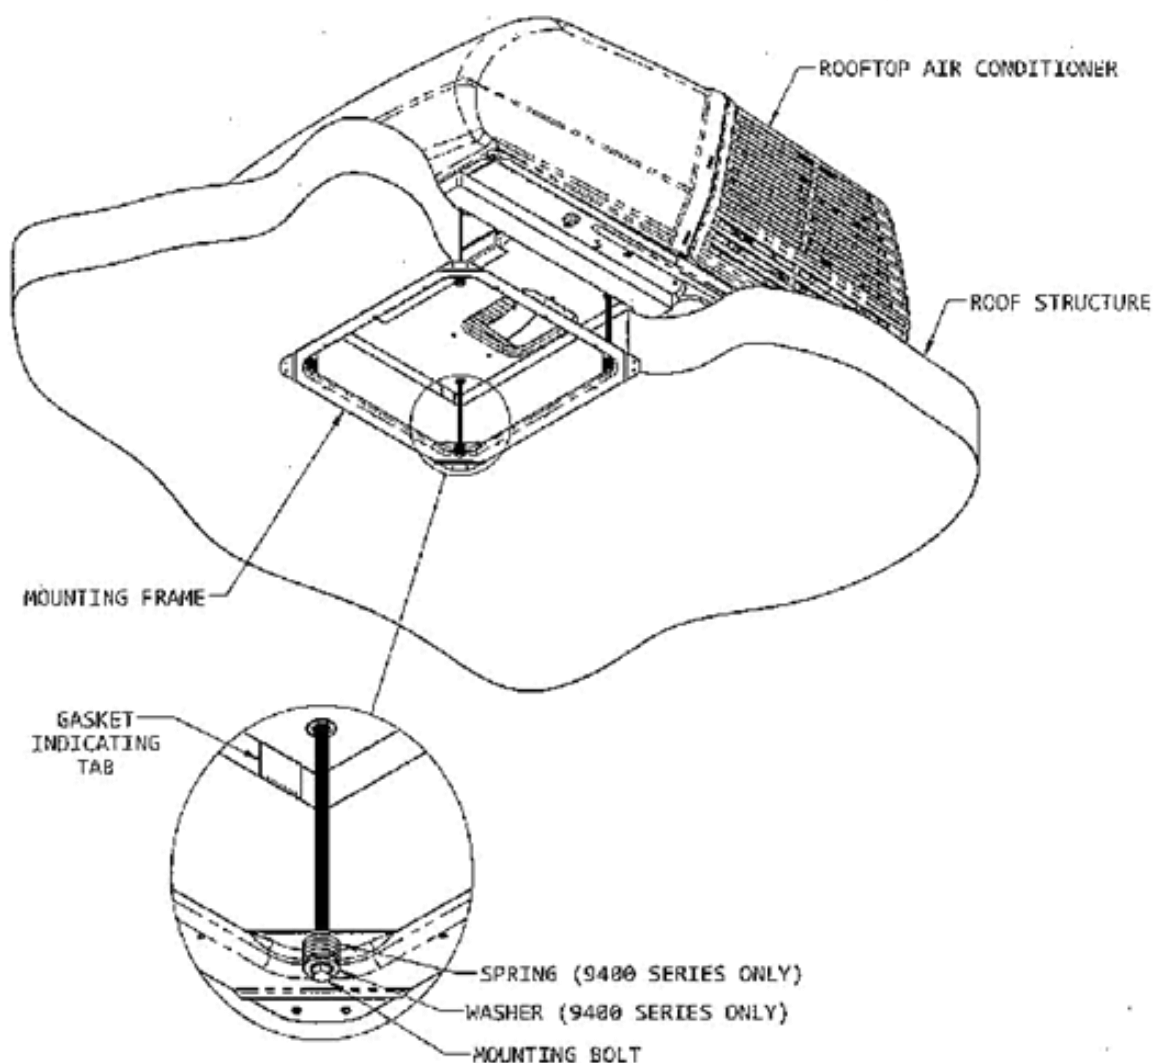

FIGURE 4
A mounting frame is supplied with the ceiling assembly. Follow the steps below to secure the air conditioner to the roof. Refer to Figure 4.
- Install the ceiling assembly mount frame using the four bolts found with the ceiling assembly. The 9400 series ceiling assemblies also utilize mounting springs and washers over the bolts (See Figure 4).
- When mounting springs are utilized, proper tension has been achieved for each bolt when the spring coils have just come together. When mounting springs are not utilized, proper tension has been achieved for each bolt when any portion of each gasket indicating tab has been pulled down even with the roof. See Figure 4. The upper unit has now been properly installed with optimum gasket compression.